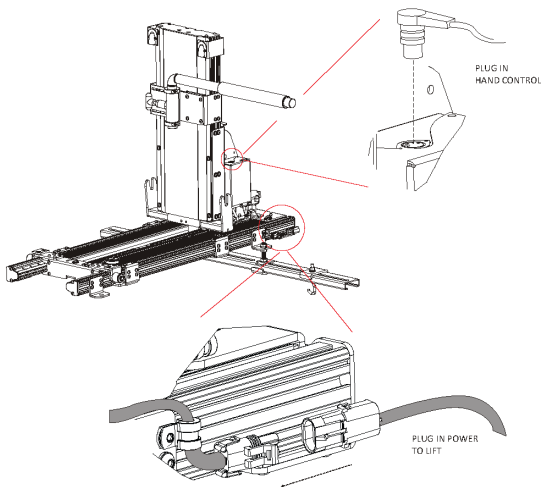

Figure 4-40
1. Plug the hand control into the control box on the passenger's side of the lift. The plug in the pre-run vehicle harness into the base of the lift. *See Figure 4-40.*